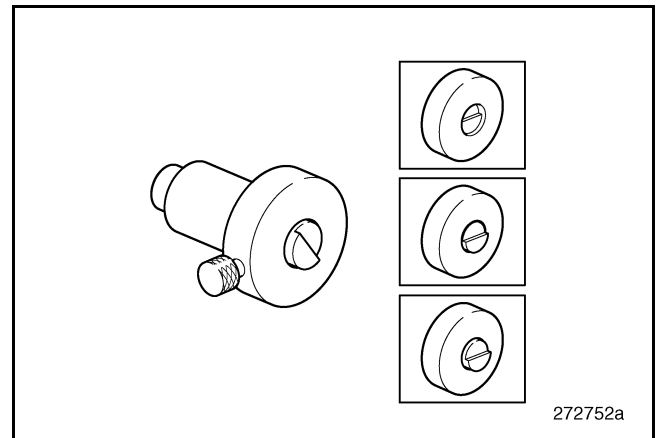

Figure 43 — Depth Gauge
- e. Carefully remove the gauge from the camshaft sensor bore and observe the location of steps between the inner and outer portions of the gauge (Figure 43):